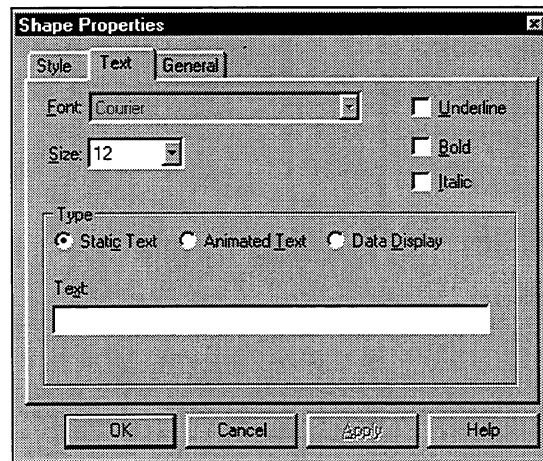

Figure 6-11. Static Text Properties Page in the Shape Properties Form
4. When you release the left mouse button, the Shape Properties form opens, with the Text page active, as shown in Figure 6-11.